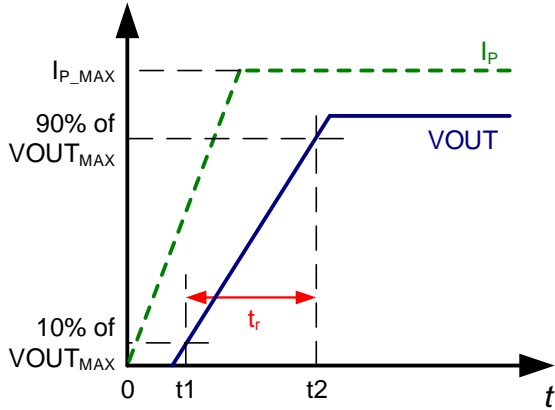

Figure 7: Rising Time (t_r)
2. t_2 : The sensor's V_{OUT} reaches 90% of its full scale value (see Figure 7).